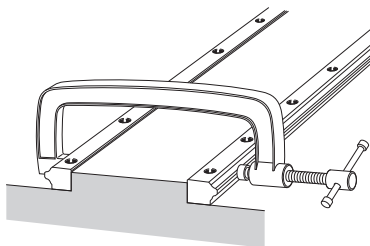
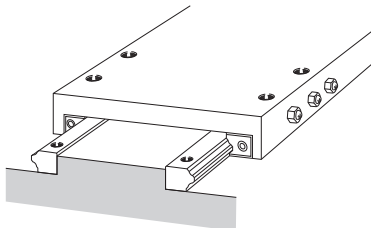

Fig. 22
Fig. 23
- (2) Use a small vice to press the two LM rails to the base so that they closely contact the reference surface, then tighten the mounting bolts to the recommended torque (see **B1-101**). (Fig. 22)
- (3) Mount the LM blocks on the table, then install them onto the LM rails. Be sure the mounting bolts for the LM blocks are temporarily fastened.
- (4) Alternate between adjustment bolts to tighten them gradually and adjust the clearance. If a relatively large preload is applied in order to achieve high rigidity, control the tightening torque or the rolling resistance.
- a. It is preferable to use three clearance adjustment bolts for each LM block as shown in Fig. 23.